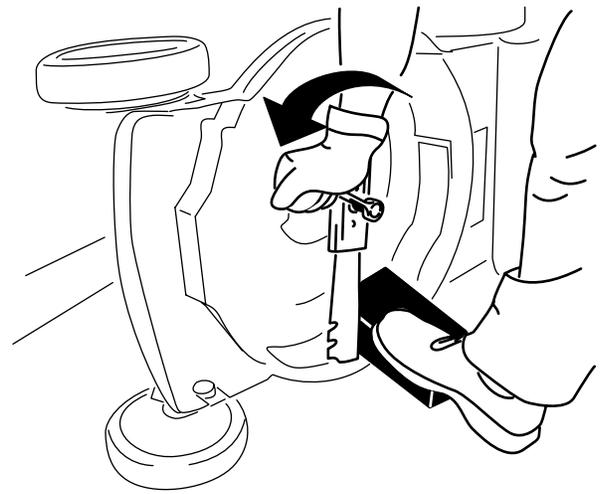

Figure 16
2. Use a block of wood to hold the blade steady (Figure 16).
3. Remove the blade bolt and blade; save the blade bolt (Figure 16).